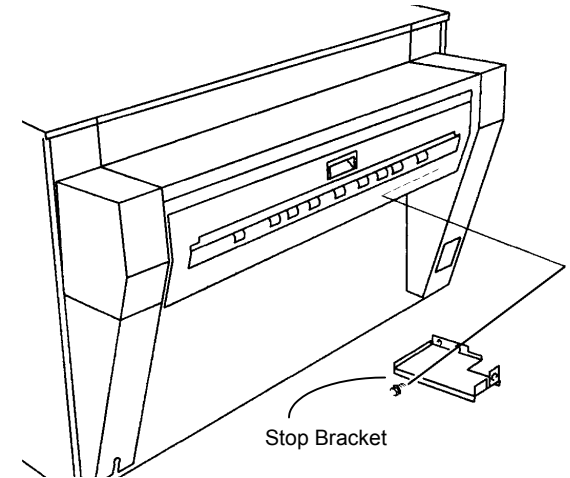

Figure 2. Removal of the Stop Bracket
6. (Figure 2): Remove the Stop Brackets from the 721P/8855. Place the brackets and screws in the repack box.